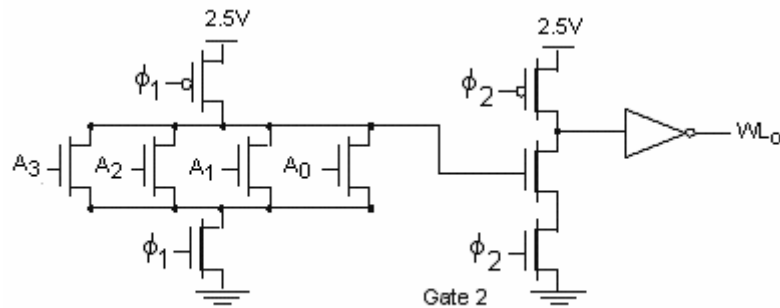

Figure 12.90 Dynamic NOR row-decoder.
9. [M, None, 12.3.1] Figure 12.90 shows a dynamic NOR row decoder (using pseudo two-phase logic) for word line 0 of a memory with 16 word lines.